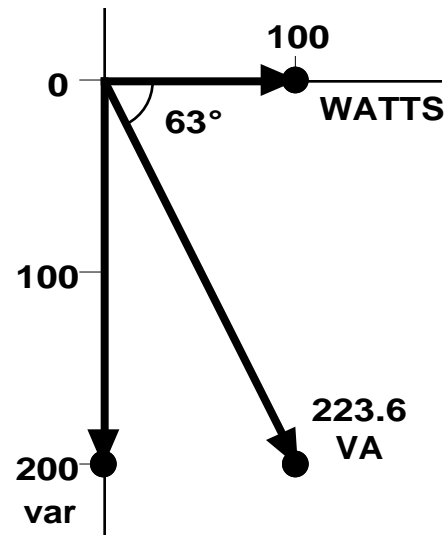

Figure 3: Point 'A' is the power in the resistor. 'B' is the power in the capacitor and 'C' is the overall circuit power
Since this power incorporates both the real and reactive components, it is given the term VA which stands for *volt-amperes*. You'll see a lot of appliances marked with VA instead of watts, especially devices with motors. Figure 3 shows the relationship between the power, var and VA given in the above example.
Power factor (PF) in AC circuits is sometimes expressed as an angle. That angle is shown in figure 3. It is more often given as a number between 1 and 0, which is just the cosine of the angle. A PF of one says all the power is being delivered to the resistance.